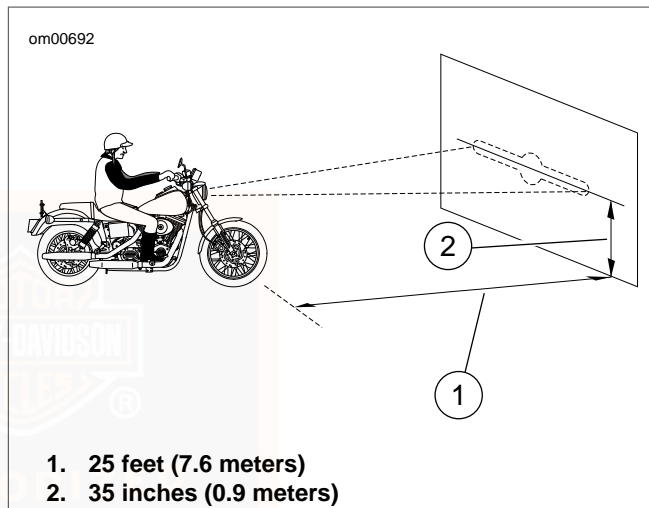

Figure 47. Checking Headlamp Alignment: Dyna Models
3. See Figure 47. Position motorcycle 25 ft (7.6 m) away from a screen or wall. Measure the distance from directly below the front axle to the base of the screen/wall.